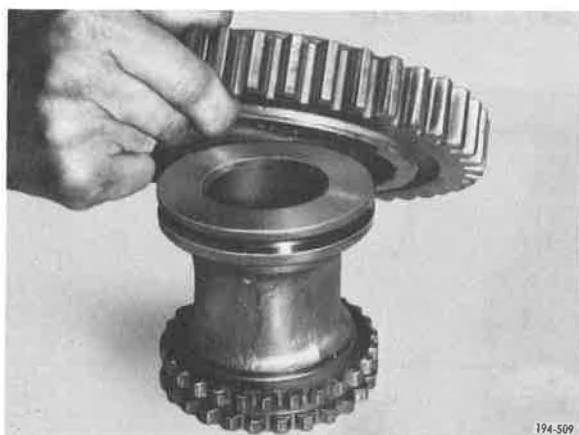

Figure 381. Installing Gear
17. Assemble the Lo-range gear onto the front compound main drive pinion sliding clutch. See Figure 381.